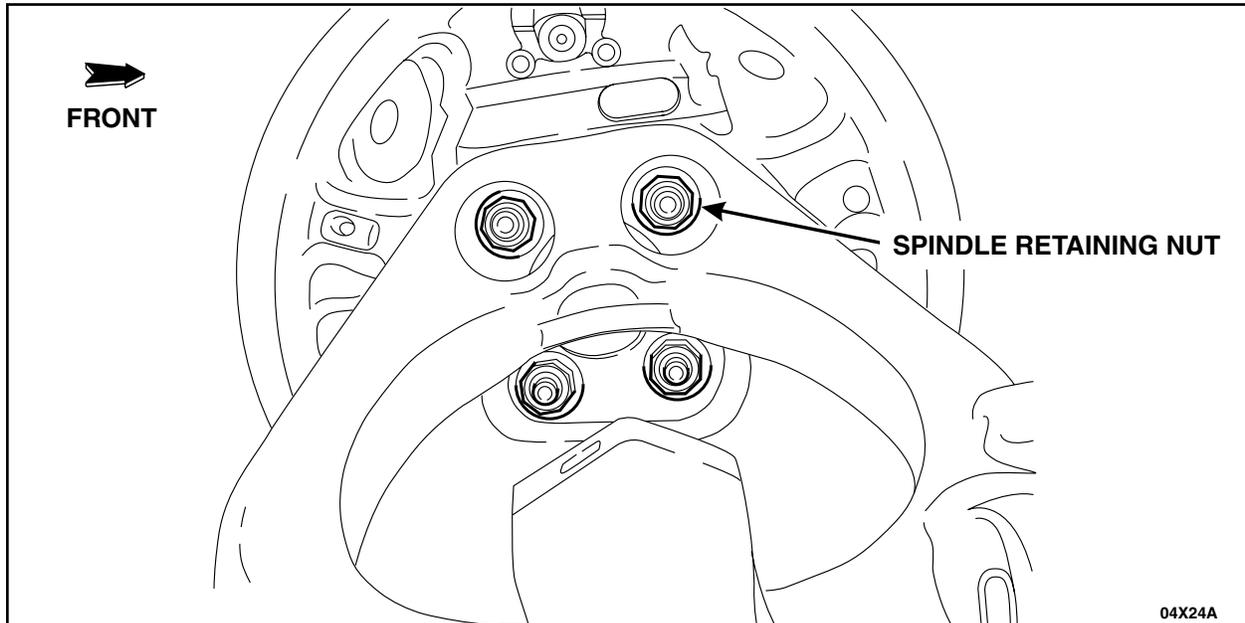

FIGURE 6
7. Remove the four spindle retaining nuts. See Figure 6.
15. Install the four spindle retaining nuts. See Figure 6.